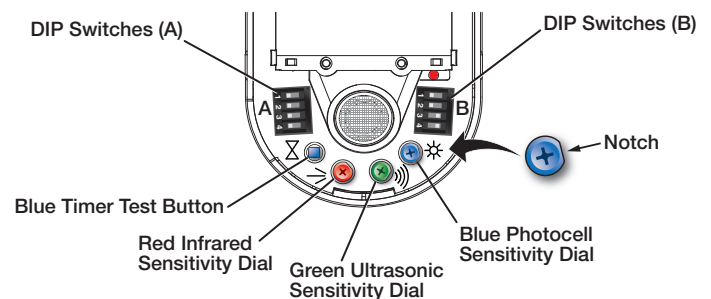

Figure 2. OCS 100W Controls
- **DIP Switches (B)** — (see figure 2 on the previous page)